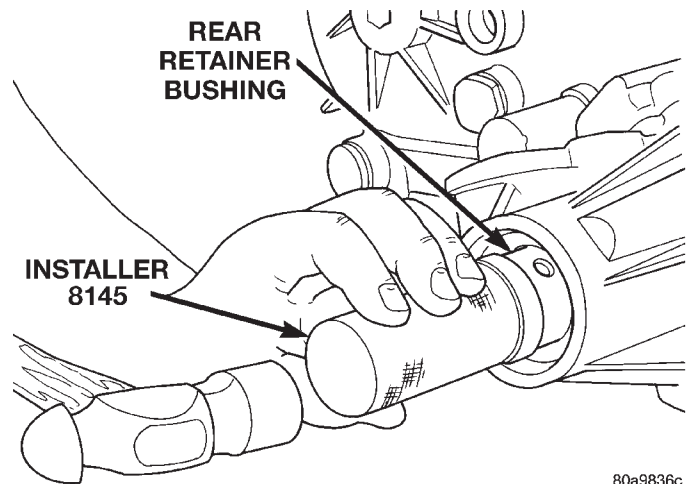

Fig. 12 Rear Retainer Bushing Install
(1) Clean fluid residue from sealing surface and inspect for defects.
(2) Position replacement bushing in rear retainer with fluid port in bushing aligned with slot in retainer.
(3) Using Installer 8145, drive bushing into retainer until installer seats against case (Fig. 12).